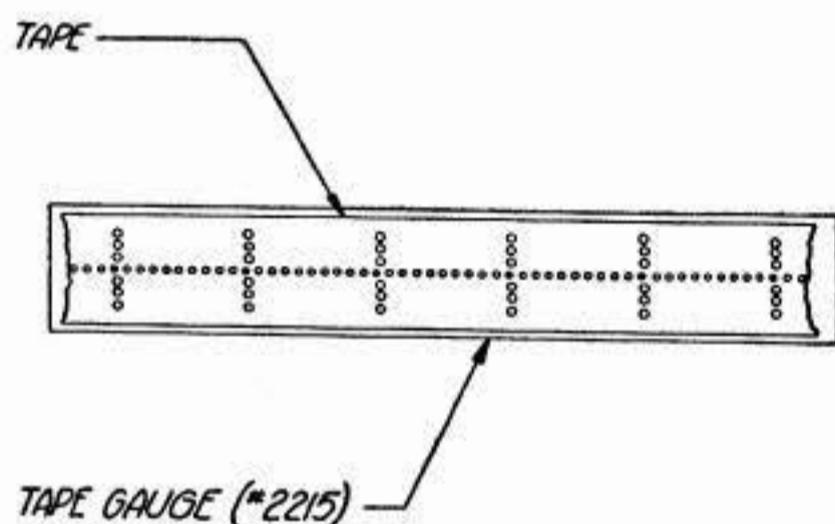

Fig. 33
2.82 **Tape-Feed-Roll Detent (Final Adjustment):** If necessary refine the tape-feed-roll detent adjustment so that the perforations in the tape meet the standard spacing of ten holes to the inch. This may be checked by perforating a length of tape consisting of a series of nine BLANKS (TAPE key) followed by a RUBOUT, and checking it against the tape gauge (TP2215). **Fig. 33**